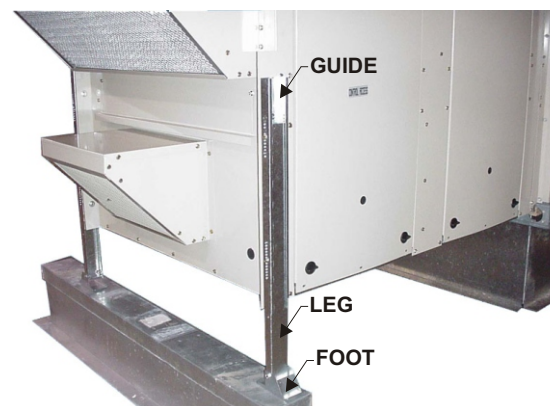

Figure 11
- 1- Lift ERS at least three feet (3'). Remove four screws holding telescoping legs to guides and pull out legs. Reinsert the legs from the bottom with the flat foot under the unit. Reinsert one of the screws to hold legs into place. The legs will need to be adjusted later when unit is in position. **See Figure 11**.
- 4- Remove the screws placed in the standoff legs and adjust the legs on the ERS until it is level. Replace all four screws in each leg to secure the ERS in the leveled position. **See Figure 11**.